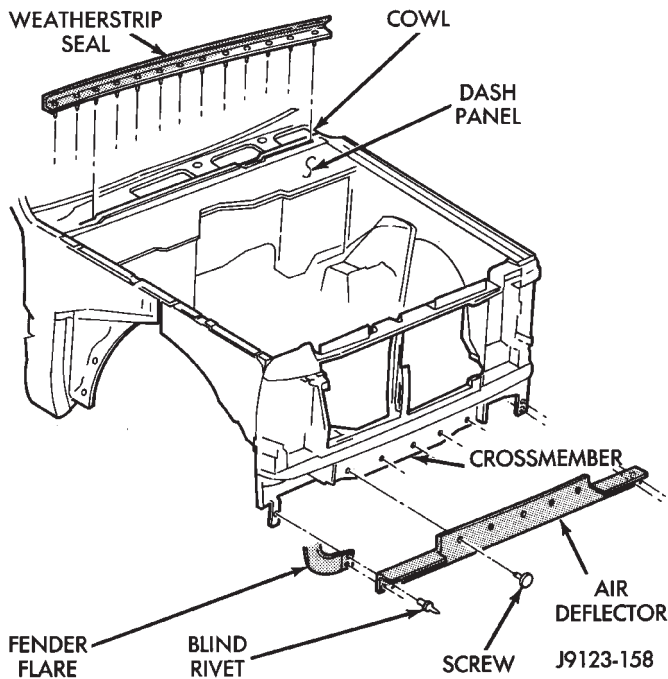

Fig. 22 Cowl Seal and Crossmember Air Deflector
(1) Pry upward along the length of seal (Fig. 22).
(2) Detach the seal retainers from the cowl panel.
(3) Remove the seal from cowl panel.
- (1) Remove the rivets that attach the air deflector to the fender flares (Fig. 22).
- (2) Remove screws that attach air deflector to the crossmember.
- (3) Remove the air deflector from the crossmember.